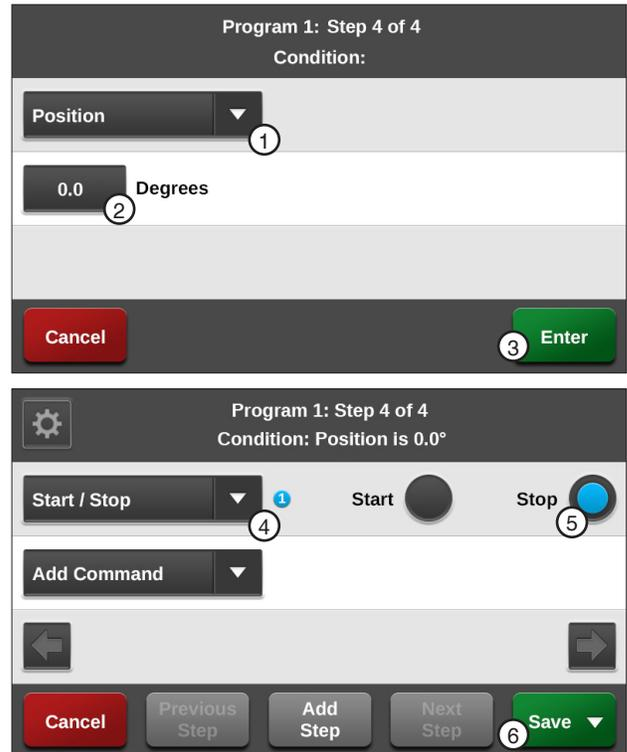

Figure 113-2 1. Position Condition 4. Start/Stop Command
9. Enter the commands to be executed at this position. Refer to Figure 113-2.
11. Program the position condition for this step. Refer to Figure 113-2.
13. Finish the program by selecting one of the following. Refer to Figure 113-2.